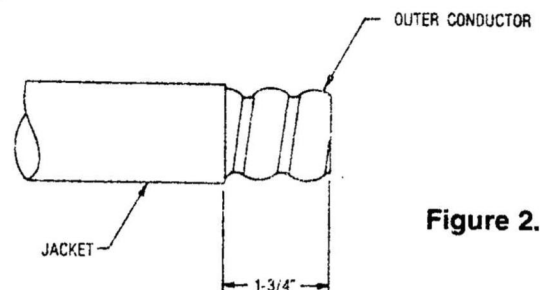

Figure 2.
3. Trim the cable jacket with a knife to the 1-3/4 inch dimension shown in Figure 2. The connector backnut may be used as a trim guide to insure an even cut. Use care not to score the copper outer conductor.